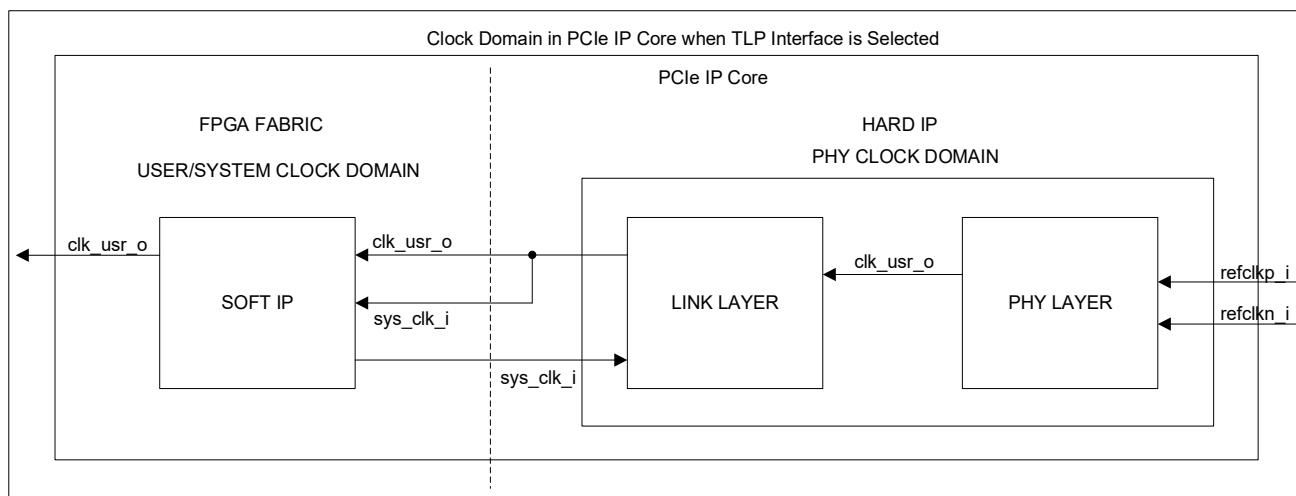

Figure 2.3. PCIe IP Clock Domain Block Diagram for TLP Interface
The PCIe x1 IP includes the following clock domains. The *sys_clk_i* is generated during the PLL IP instantiation. For the TLP interface, you can connect *link0_clk_usr_o* back to the *sys_clk_i*, as shown in Figure 2.3.
- Common Clock (CC)
- For the TLP interface variants, you can choose to connect *link0_clk_usr_o* back to the *sys_clk_i* as shown in Figure 2.3.